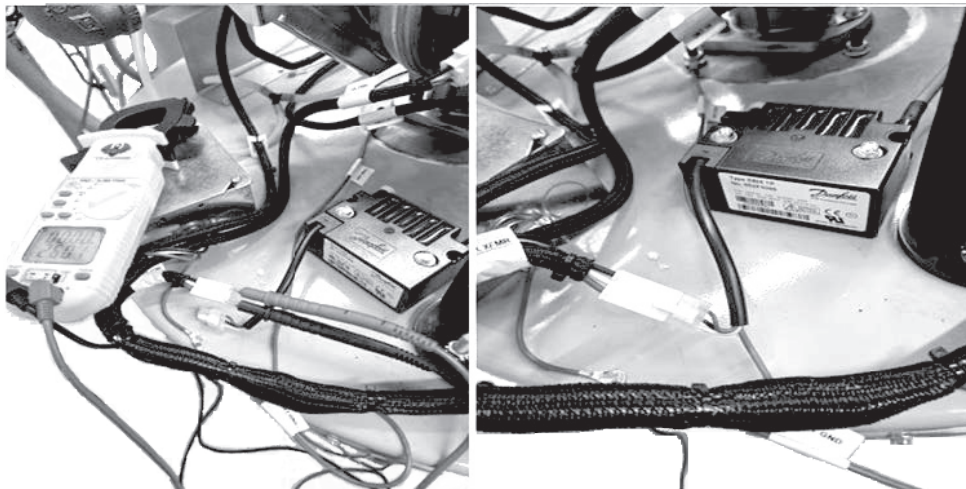

Figure 15. Measuring the Supply Voltage to the Transformer
3. Using a voltmeter, measure voltage to the transformer when the UIM indicates a call for ignition. Place red meter-lead to the black wire side of the connector and place the black meter-lead on the green wire side of the connector. See **Figure 15** for reference.